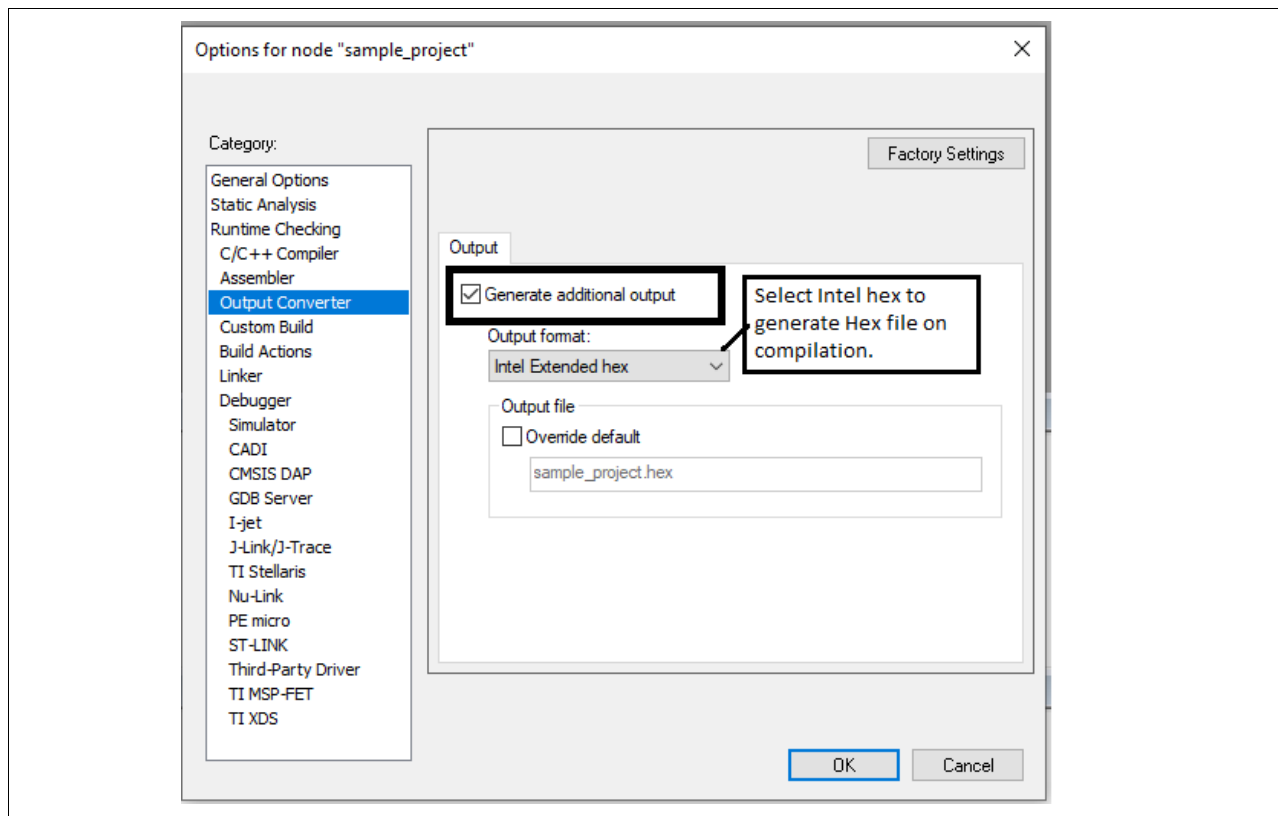

Figure 22. Output Converter
4. In the same **Options** menu, select **Output Converter** in **Category**. Check **Generate additional output** and optionally **Output format** as **Intel Extended Hex** as shown in Figure 22: